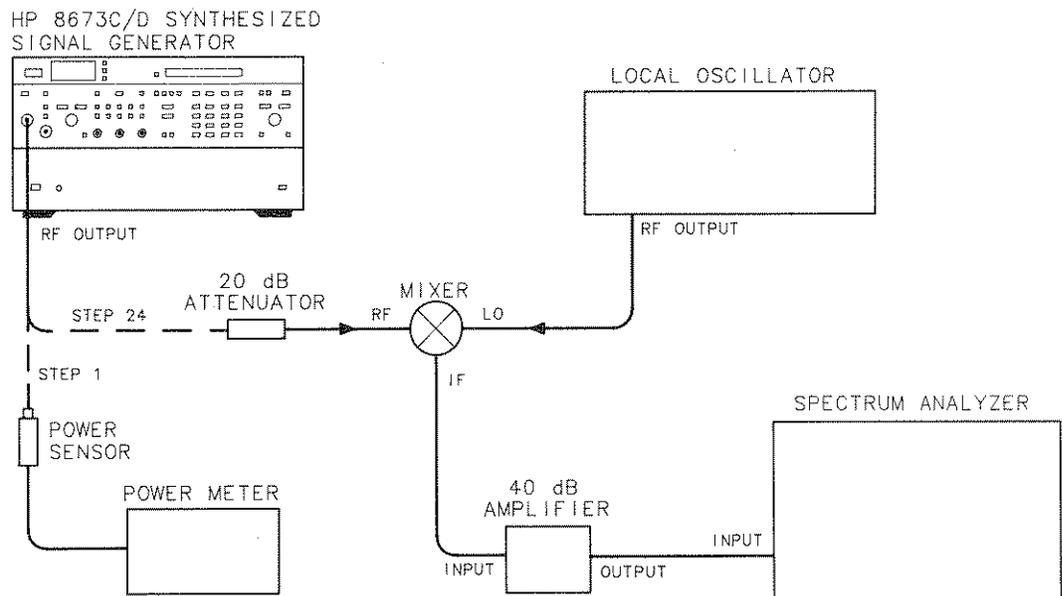

Figure 4-22. Absolute Level Accuracy Test Setup
1. Connect the equipment as shown in Figure 4-22.
24. Disconnect the power meter and connect the Signal Generator to the attenuator and mixer as shown in Figure 4-22.